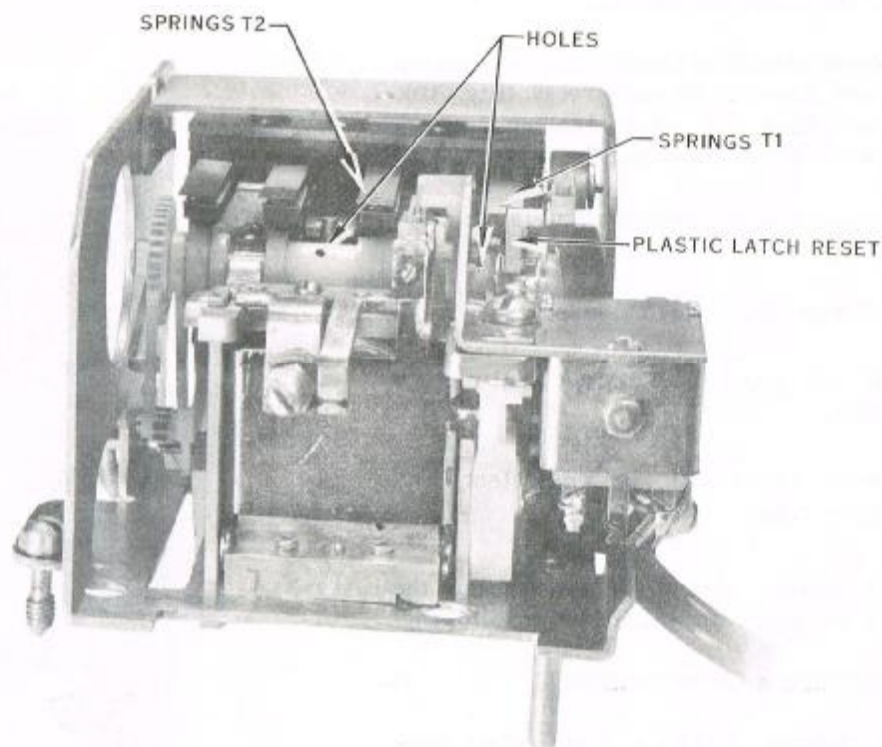

Fig. 9 — Totalizer, Front View
- (2) Release plastic latch reset (Fig. 9) and check springs T1.
- (3) Rotate shaft in proper direction until springs T1 operate as indicated by a movement of the plastic latch reset (Fig. 9).
- (4) Do not allow the shaft to move. Insert one of the paper clips into hole located near the offset on right end of shaft. (See Fig. 9.)
- (5) Hold the paper clip so right end of shaft cannot move.
- (6) Insert the second paper clip into one of the four holes located in center of shaft (Fig. 9). Do not allow paper clip point to extend too far beyond shaft; this may damage insulation of coil located directly beneath the shaft.
- (2) Release plastic latch reset (Fig. 9).
- (3) Rotate shaft in proper direction, one step for each 5 cents of the lowest chargeable rate.
- (4) Springs T1 should operate (indicated by plastic latch reset moving forward) when lowest chargeable rate has been stepped (Fig. 9).
6.05 Example: For a 10-cent rate, shaft should be rotated two steps. On the second step, springs T1 should operate (Fig. 9).